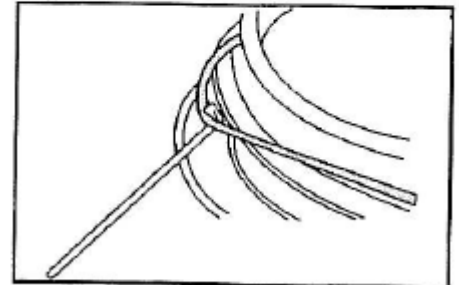

Figure 7
2. Place a pry bar or screwdriver under the O-Ring and pull it out from the groove in the rim. Cut the O-Ring with a knife to ensure that a new O-Ring is used. (Fig. 7)